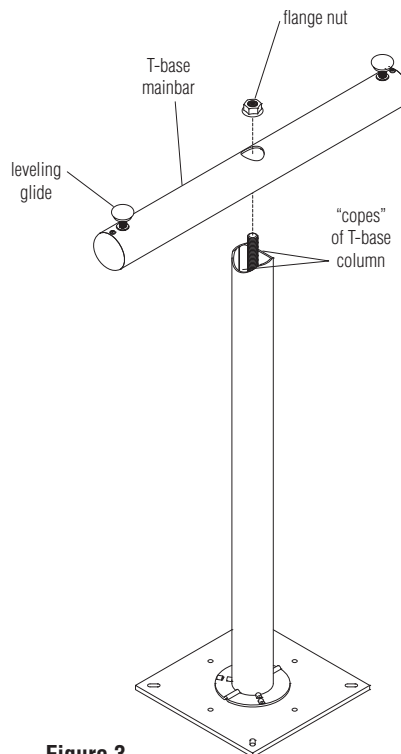

Figure 3
5. Position the T-leg mainbar over the T-leg column, aligning the center hole in the mainbar with the threaded rod and set mainbar down until it rests into the copes in the T-leg column. Make sure that the leveling glides in the mainbar are facing away from the mounting plate, as illustrated (Figure 3).